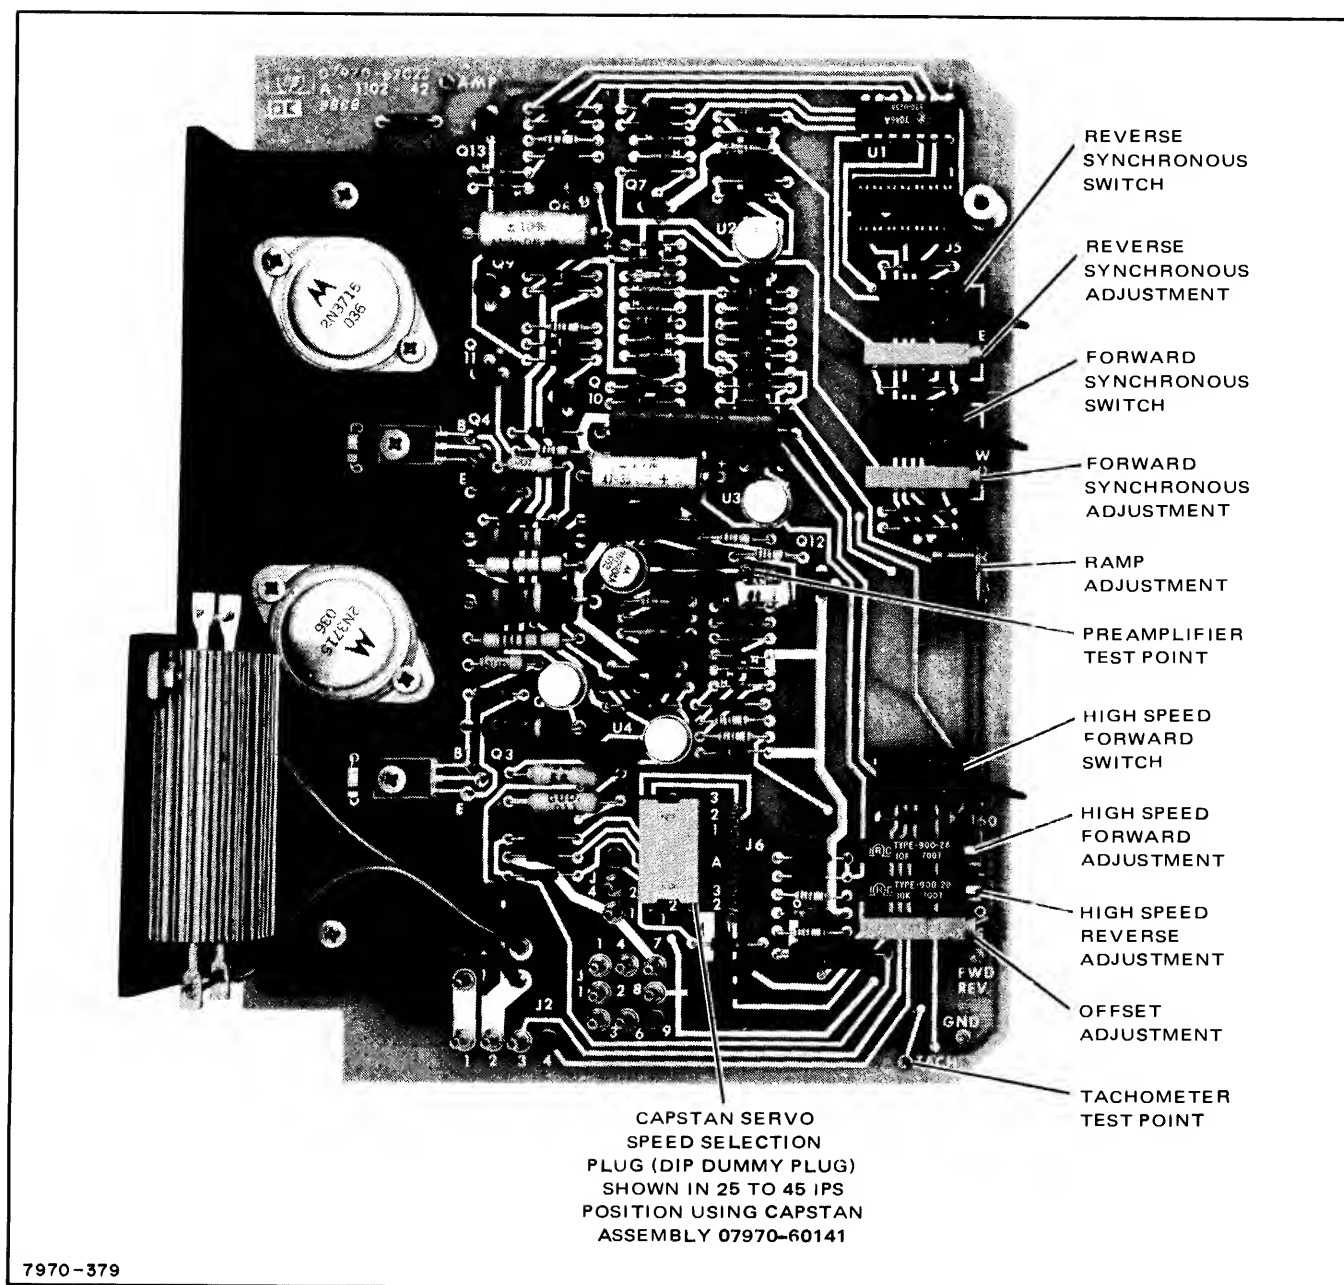

Figure 5-3. Single Speed Capstan Servo PC Assembly, Test Points and Adjustments
For capstan switch and adjustment locations see figure 5-3.
5-24. CAPSTAN SERVO FORWARD AND REVERSE DRIVE SPEED ADJUSTMENTS. Prior to performing the servo forward and reverse drive speed adjustment, ensure that power supply voltages and offset current are within tolerance. Figure 5-3 shows the location of service switches and forward and reverse speed adjustments used in the next step.
- (1) For 25 ips speeds, the counter indication should be  $8,333 \pm 34$  Hz. If adjustment is necessary, adjust to  $8,333 \pm 16$  Hz.
- (2) For 37.5 ips speed units, the counter indication should be  $12,500 \pm 50$  Hz. If adjustment is necessary, adjust to  $12,500 \pm 25$  Hz.
- (3) For 45 ips speed units, the counter indication should be  $15,000 \pm 60$  Hz. If adjustment is necessary, adjust to  $15,000 \pm 30$  Hz.
- b. On the capstan servo PCA place unit in high-speed forward mode with the high-speed forward (+160) service switch (figure 5-3), and use the high-speed forward (+160) adjustment (R53) to adjust speed until counter indicates  $53,333 \pm 800$  Hz. If adjustment is required, adjust until the counter indicates between 53,233 and 53,433.
- d. Switch the command forward (CF) switch on the 13191A board ON (up).
- f. Adjust the capstan servo PC assembly RAMP control (See figure 5-3) to obtain the time listed in table 5-1 for tape unit synchronous speed. Use the vertical gain vernier control of the oscilloscope to expand the waveform so that the 90%
5-30. REEL SERVO ADJUSTMENTS. Load a short (200-400 foot) tape onto the transport and bring to load point. The following adjustments determine the peak deflections of the tension arms. The amount of deflection desired is a function of the synchronous speed. At 45 ips the deflection is set so the tension arms deflect to the outer marks located on the back side of the casting (in both forward and reverse modes). At lower speeds the amount of deflection is smaller (i.e. 25/45 of maximum deflection for 25 ips, or approximately 1/2 that of 45 ips). Use the drive control switch on the capstan PCA (figure 5-3) to drive the tape unit for the following adjustments.